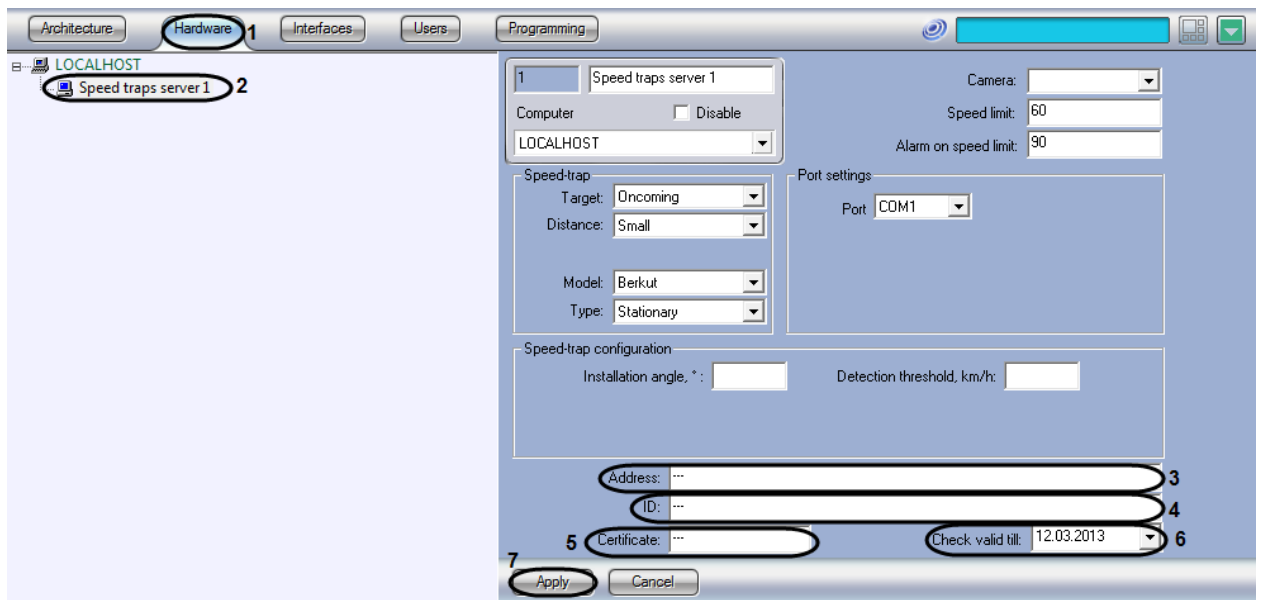

Fig. 7.3—11 Setting the data concerning Radar device for displaying in the report about the recognized number
2. In the object tree of the Hardware tab select the Speed-traps server object representing the Radar module to be set up (see Fig. 7.3—11, 2). The settings panel of the selected object will open on the right side of the window
3. Enter the location of Radar device in the «Address» field (see Fig. 7.3—11, 3).
4. Enter the factory ID of Radar device in the «ID №» field (see Fig. 7.3—11, 4).
5. Enter the certificate number, that corresponds to Radar device in the «Certificate №» field (see Fig. 7.3—11, 5).
6. Select date, until that verification of Radar device is valid, from the «Checking valid till» dropdown list (see Fig. 7.3—11, 6).
7. Click «Apply» (see Fig. 7.3—11, 7).